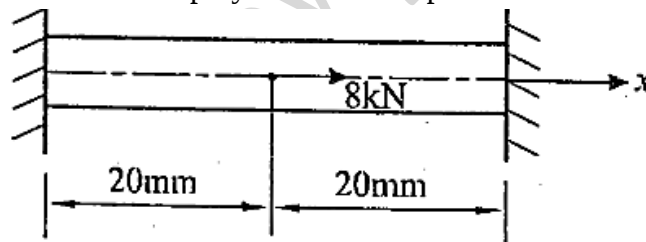

Fig. 1
- c) Use Rayleigh Ritz method to find stress and displacement at the midpoint of a bar shown in fig.1. Take  $E = 70 \text{ GPa}$ ,  $A = 100 \text{ mm}^2$ . Assume second order polynomial for displacement. 08